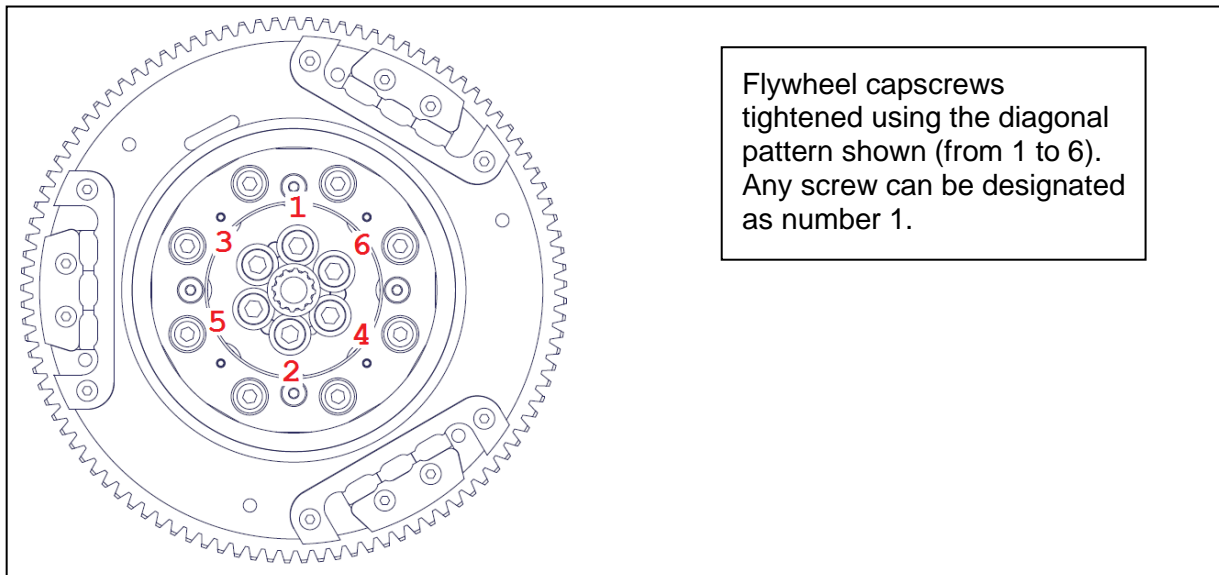

Figure 184 - Flywheel diagonal tightening pattern
- 2) Tighten all six screws up to **Prescribed Torque setting** (Table 9) again using the diagonal tightening pattern in Figure 184. Tighten in one smooth motion without pause.
Install capscrews with 6 Nordloc washers and torque to the **Prescribed Torque** (Table 9) in one smooth motion using diagonal pattern shown in Figure 184.